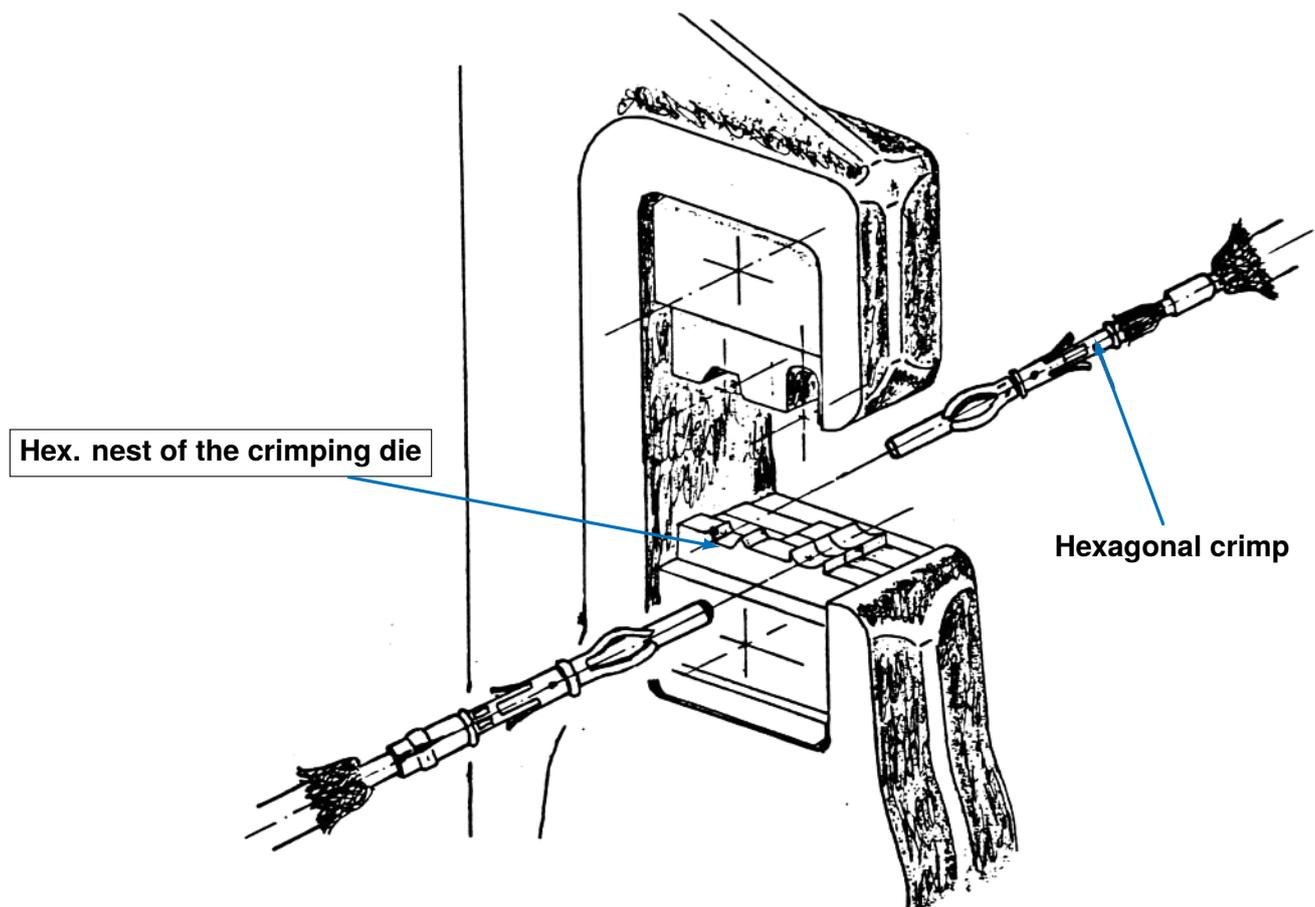

Figure 20
- Make the hexagonal crimp with hand-tool 69710-1 with crimping dies P/N 483883-1 (see position of contact in the hand-tool figure 20, page 11). Slide the braid # 2 on the crimp area of the coaxial female contact. Slide the ferrule # 2. Crimp with hand-tool P/N 69710-1 & crimping dies 483883-1. (see position of contact in the hand-tool figure 20, page 11)